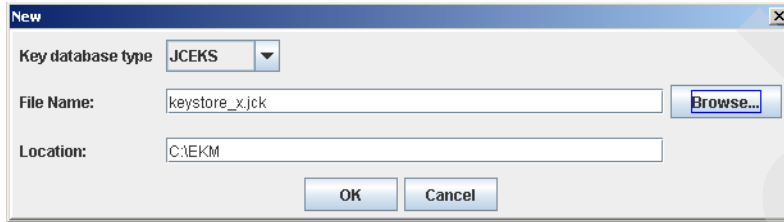

Figure 6-15 Creating keystore
2. The New key database window (Figure 6-15) is displayed. In this example, a JCEKS-type keystore is created. Select **JCEKS** against the Key database type field. Enter the relevant details in the File Name and Location fields. The file will be created with the name you specify here. Make sure the extension of the file is .jks. In this example, we create a keystore called keystore\_x.jks in the C:\EKM folder. Click **OK**.